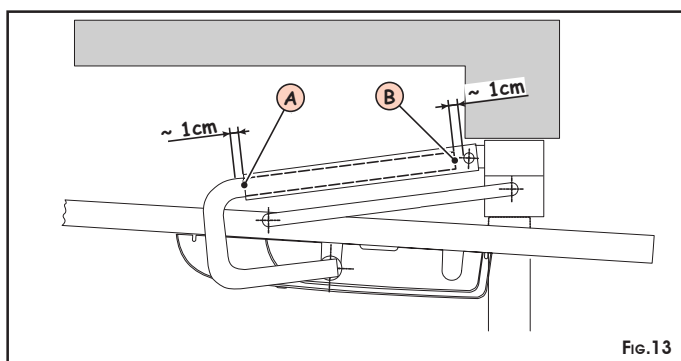

Fig.13
• **curved arms (fig. 13)**
Place the telescopic arm in position as shown in figure 13. Cut the outer profile of the telescopic arm at point A. Cut the inner profile at point B.